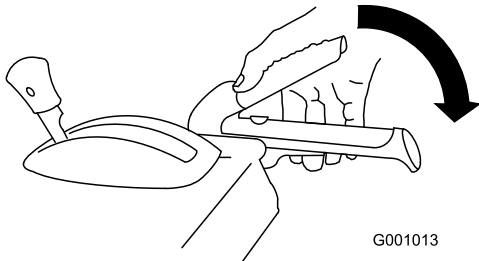

Figure 39
2. Engage the auger/impeller lever and hold it in place (Figure 39).